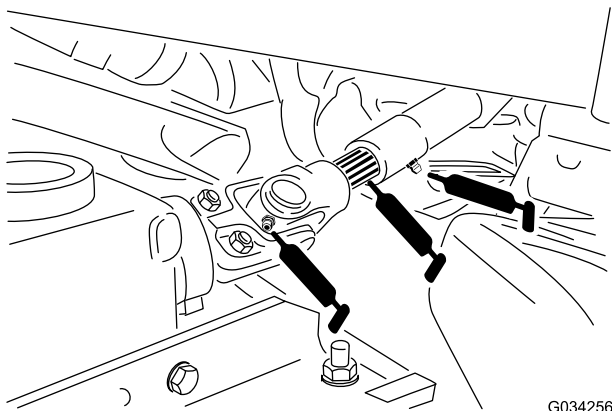

Figure 39
- PTO universal shaft (Figure 39)